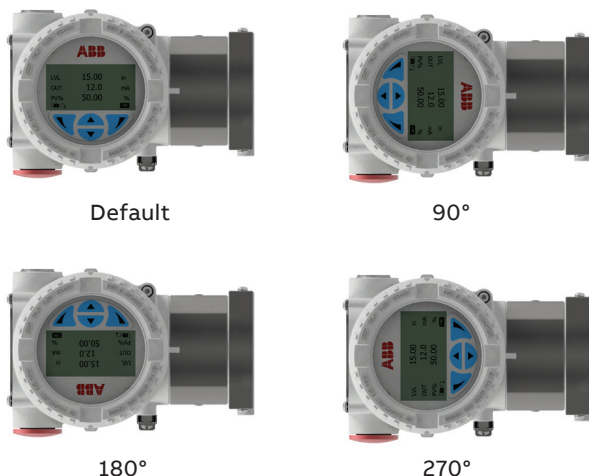

Figure 16 Windowed front cover and HMI display
- This enables + 90° or + 180° rotations (see Figure 16).